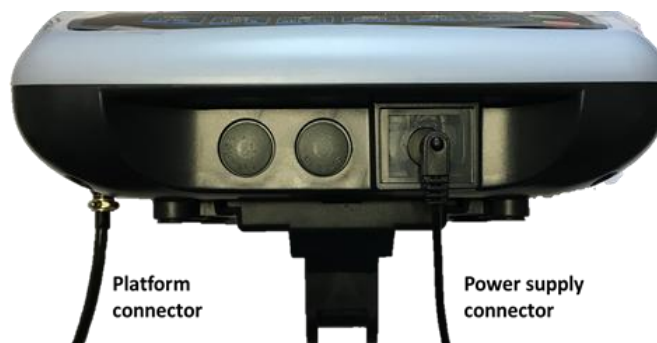

Fig. 5 Signal cable plugged into back of the indicator
3. The cable from the base to the indicator is run through the column and out through the plastic bracket at the top when you unpack the scale. Make sure the connector is free of obstructions, i.e. packing foam, and plug the cable into the connector, as shown in Figure 5. Tighten the threaded collar.
4. Attach the AC power adapter to the connector on the back of the indicator. See Figure 5.